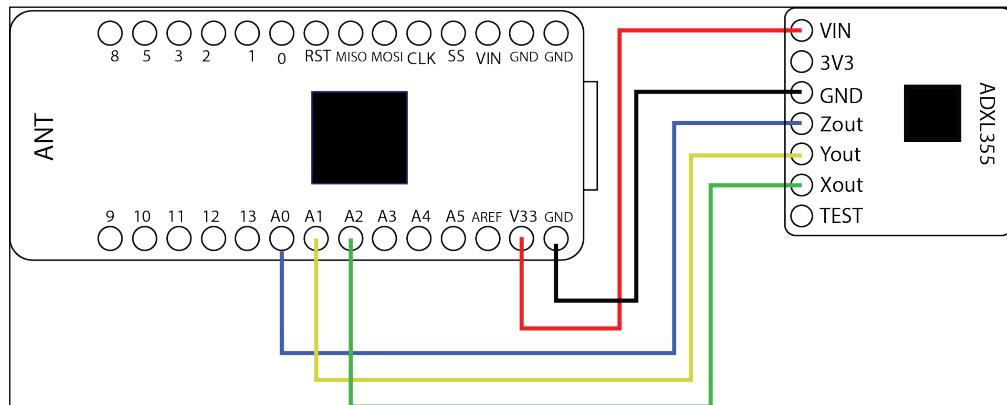

Figure 7.7: The ADXL355 connected to the Blend Micro
You can connect it as per the following sequence as shown in *Figure 7.7*:
*Figure 7.7* shows all the connections that need to be made. In the case of the ADXL335, you can connect it to either 3.3V or 5V if you ever use it with a standard Arduino.